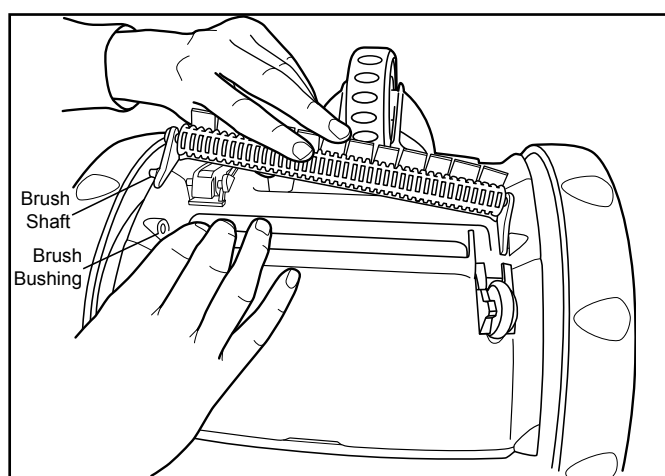

Figure 16. Remove and Replace the Brush From the Cleaner
3. Lift the brush and then remove it from the cleaner. Refer to Figure 16.
4. Install the new brush shaft in its bushing. Refer to Figure 16.
5. Install the second shaft (on the other side) of the new brush in its bushing. Refer to Figure 16.